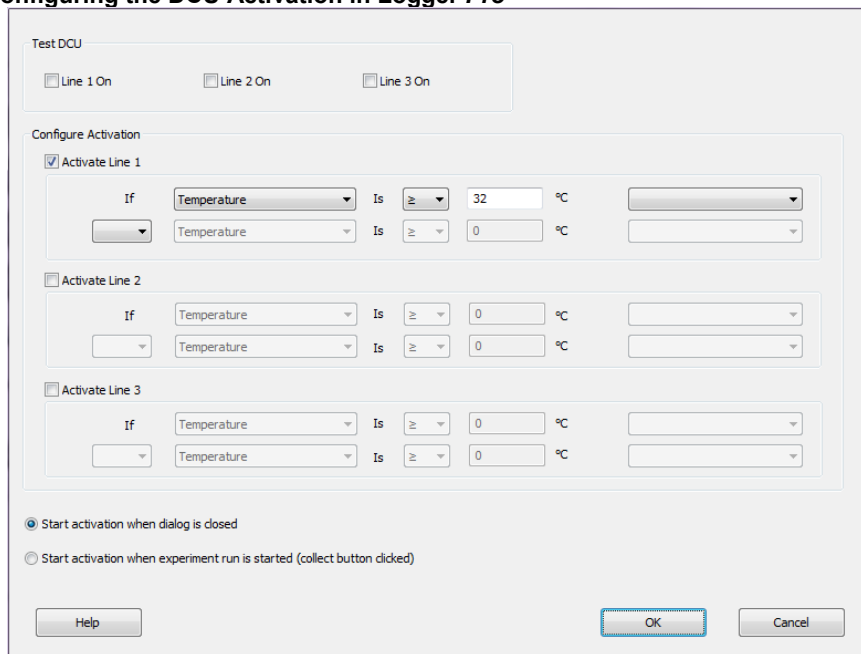

Figure 6 Digital Out dialog box
4. From the Digital Out dialog box, you can also choose when to activate the digital output. As shown in Figure 6, the dialog box includes two radio buttons: